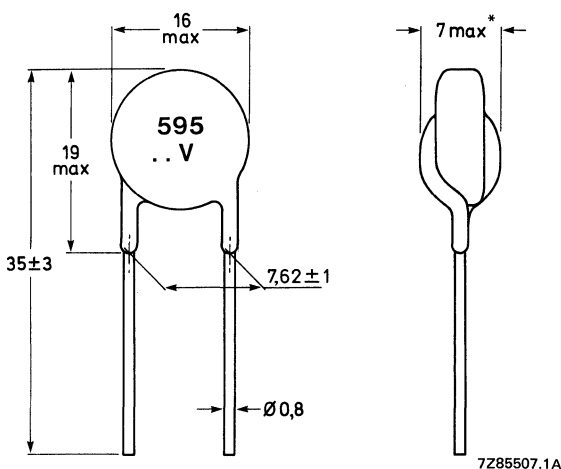

Fig. 1.
The resistors are marked with their serial number (595) and the maximum r.m.s. working voltage (see Fig. 1 and Table 1).